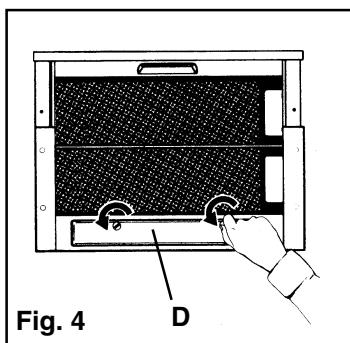

Fig. 4
- Unlock the lighting cover (D) by twisting the bolts to the left and fold down the bulb cover. **Fig. 4.**